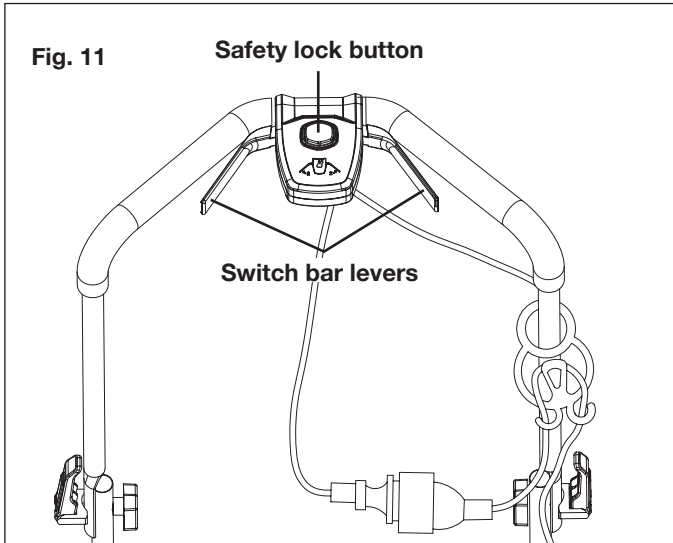

Fig. 11
5. To start the lawn mower, use one hand to press and hold the safety lock button while the other hand squeeze one of the switch levers. Once the machine powers on, release the safety lock button and squeeze the two switch levers with both of hands (Fig. 11).
7. To stop the lawn mower, release the switch levers (Fig. 11).